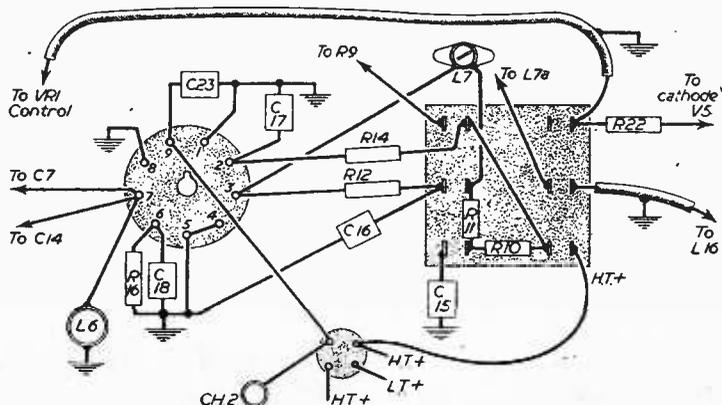

Fig. 17.—Details of the mixer stage.
17. Run a coaxial cable from cathode of first I.F. valve to the Contrast control which should be mounted on the front panel. This control was originally on the sub-chassis and has a 500 pF condenser across it. This condenser should remain as it is on the control. The centre wire of the coaxial goes to cathode V4 and the braiding goes to earth. (Fig. 17 shows mixer valve wiring.)